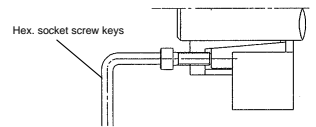

Fig. 4 Removal
- If the POWER-LOCK still locks even after loosening bolts, tighten bolts into the tapped holes for removal. (see Fig.4)